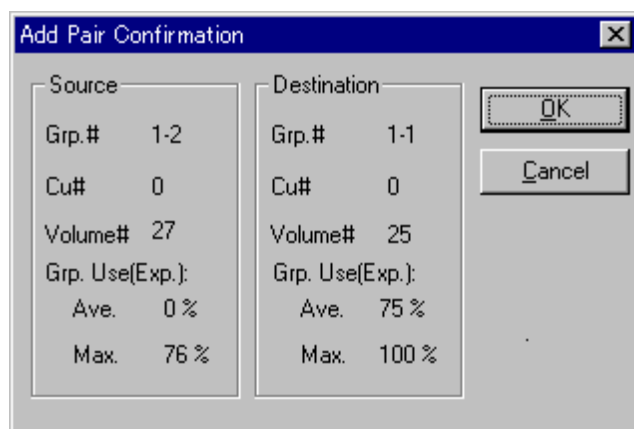

Figure 4.21 Add Pair Confirmation Panel
5. The Add Pair Confirmation panel (see Figure 4.21) displays the selected source and target volumes and the expected usage rates after migration. After reviewing this information, select **OK** to start the specified manual migration operation, or select **Cancel** to cancel your request to start migration.